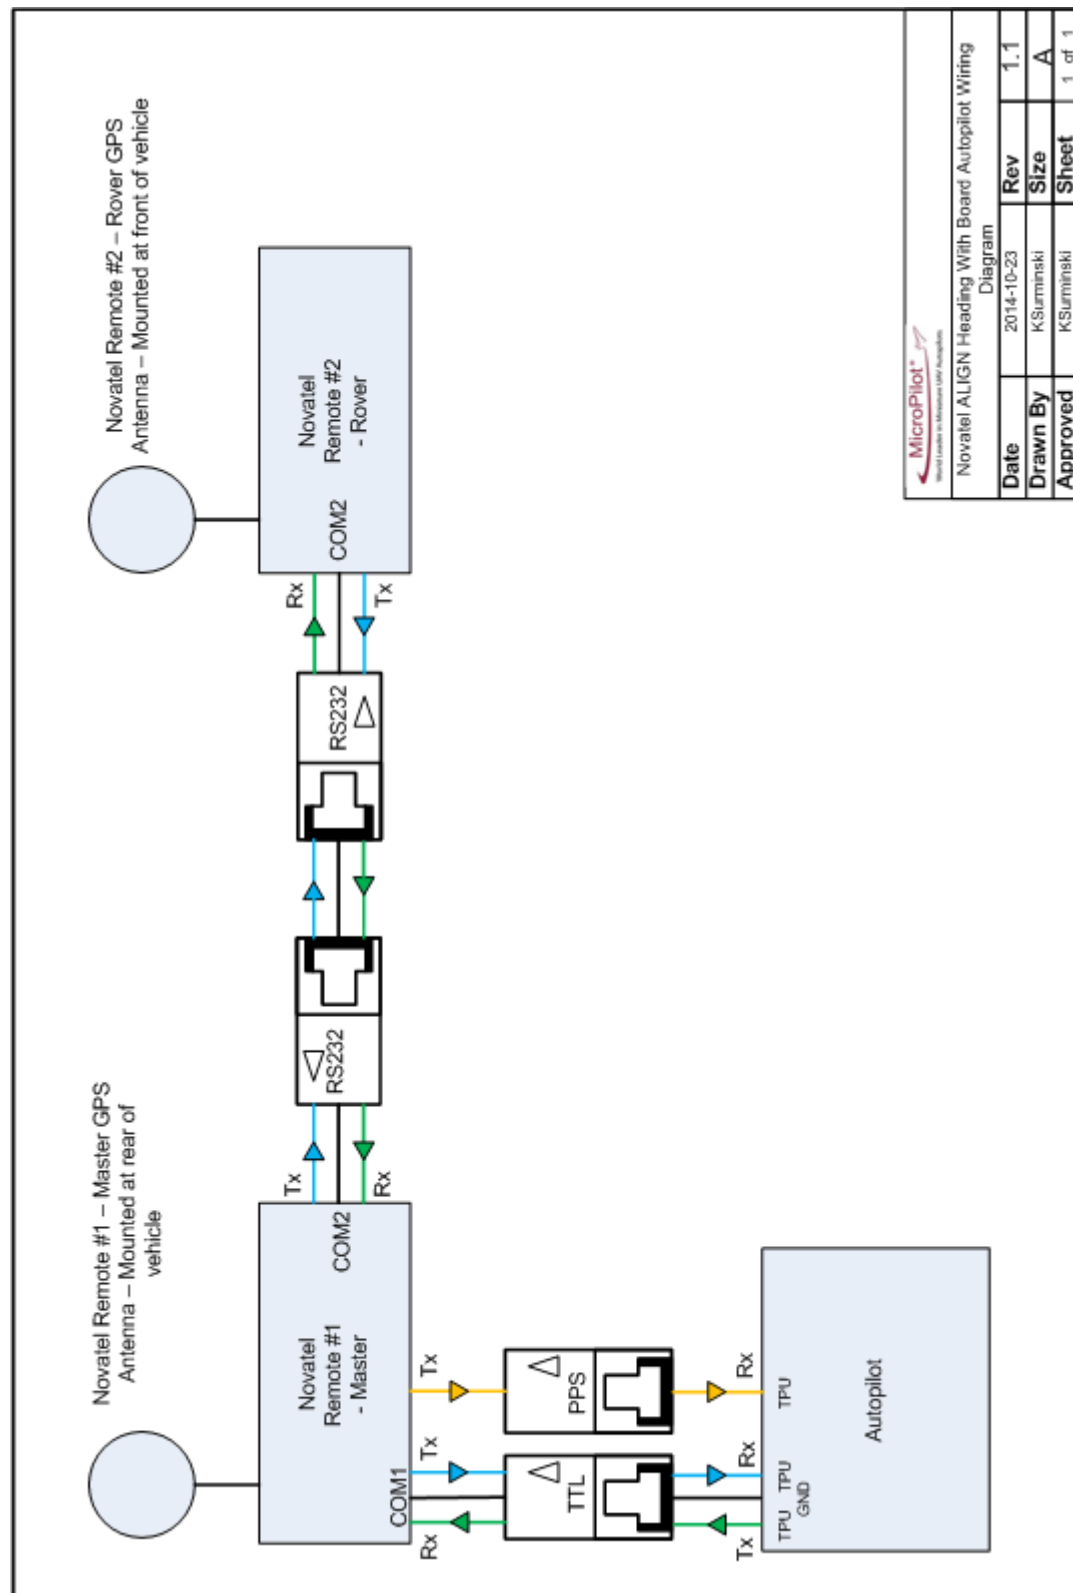
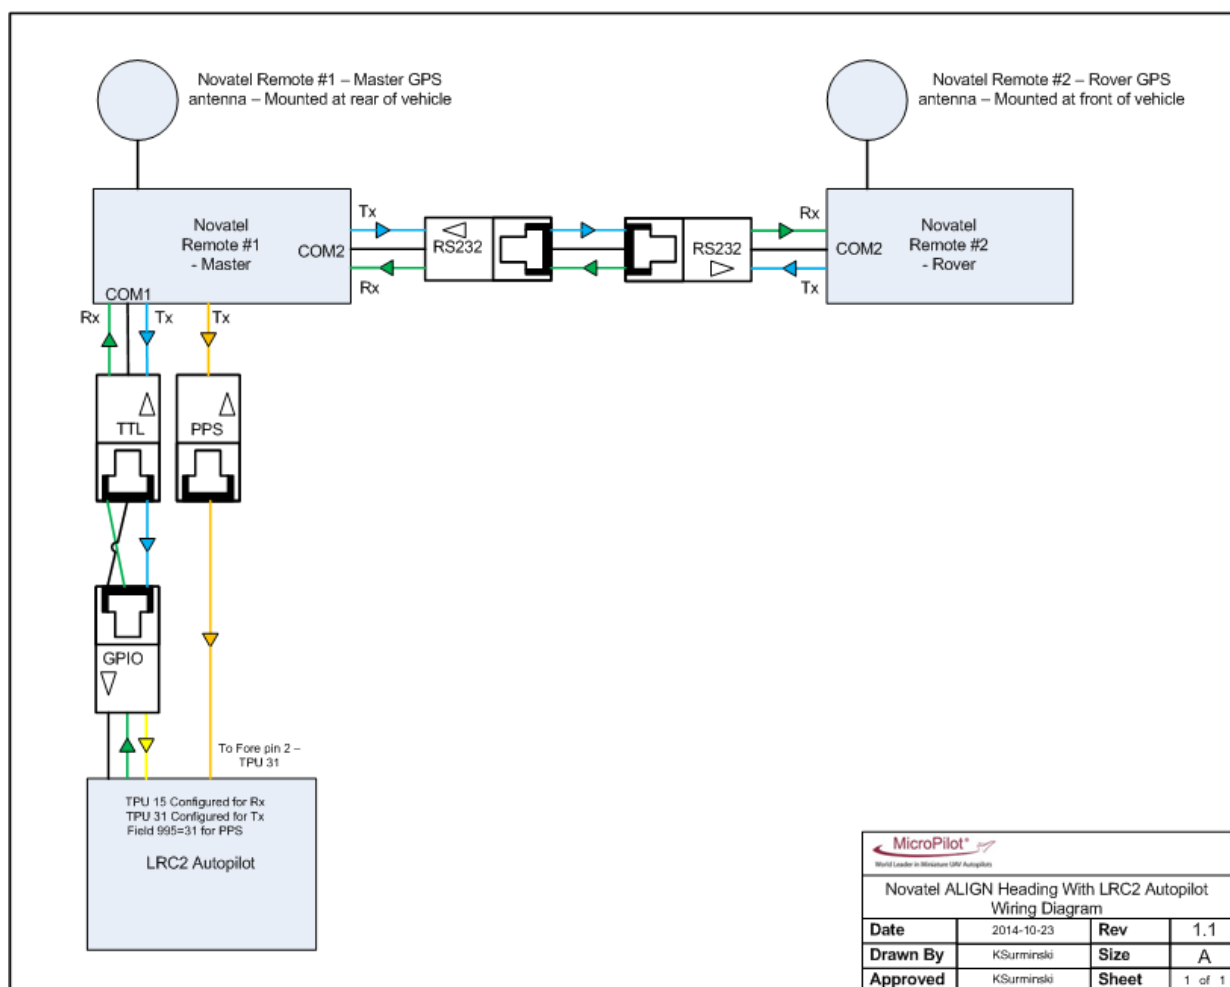

Figure 12 - NovAtel ALIGN Heading with Board Autopilot Wiring Diagram
Figure 13 - NovAtel ALIGN Heading with LRC2 Autopilot Wiring Diagram
- See Figure 12 - NovAtel ALIGN Heading with Board Autopilot Wiring Diagram when using two single antenna GPS receivers.
Figure 12 and *Figure 13* only apply to the OEM615 with one antenna. With the current OEM617D, the connection is the same for the NovAtel ALIGN heading as for normal operation, except two antennas are connected to the GPS instead of one.
See Figure 13 - NovAtel ALIGN Heading with LRC2 Autopilot Wiring Diagram